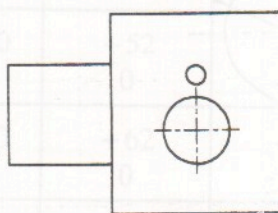

FIG. 6B.1
- (e) List the commands you would use, in the sequence that you would use them, to convert the drawing shown in Fig. 6B.1 into the finished drawing of the Plate shown in Fig. 6B.2